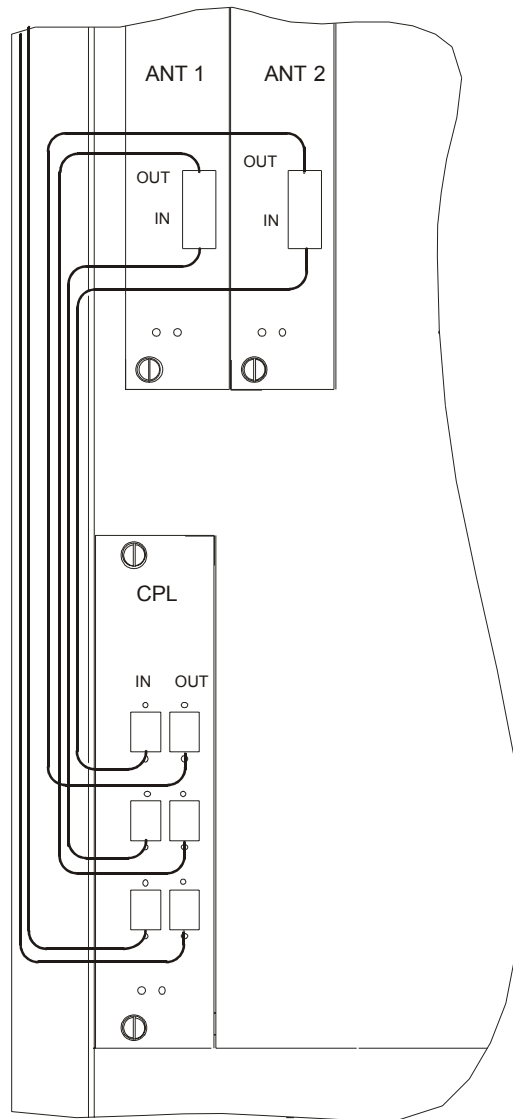
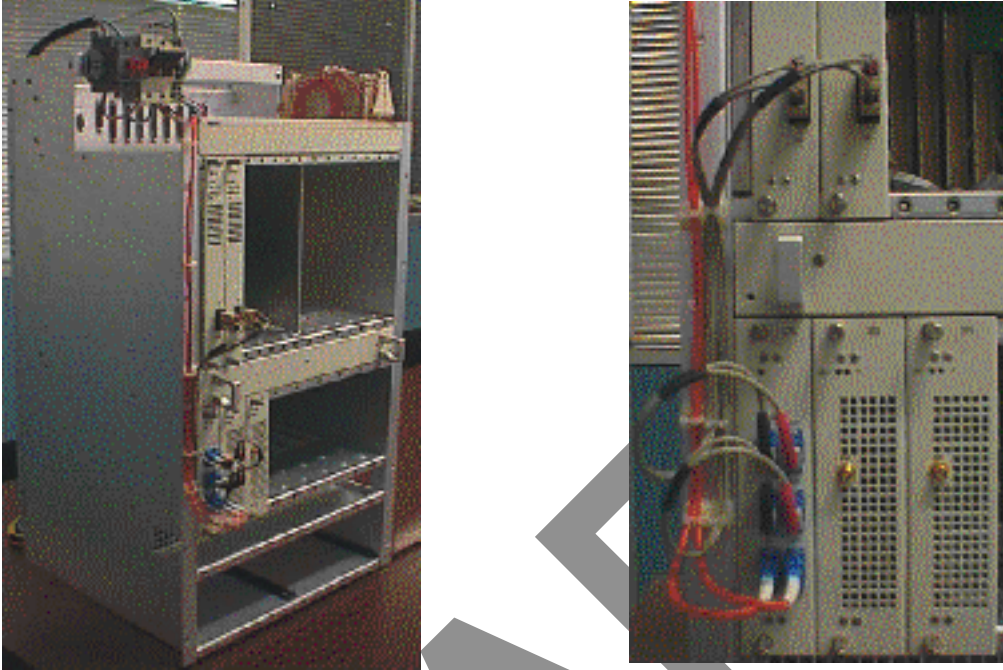

Figure 105 – Fiber optic cables connection
Figure 106 – Fiber optic cables wiring
- insert the jumpers in the direction indicated in *Figure 106 – Fiber optic cables wiring*,
2. Connect the fiber optic jumpers (see Figure 105 – Fiber optic cables connection and Figure 106 – Fiber optic cables wiring) and the main cables.